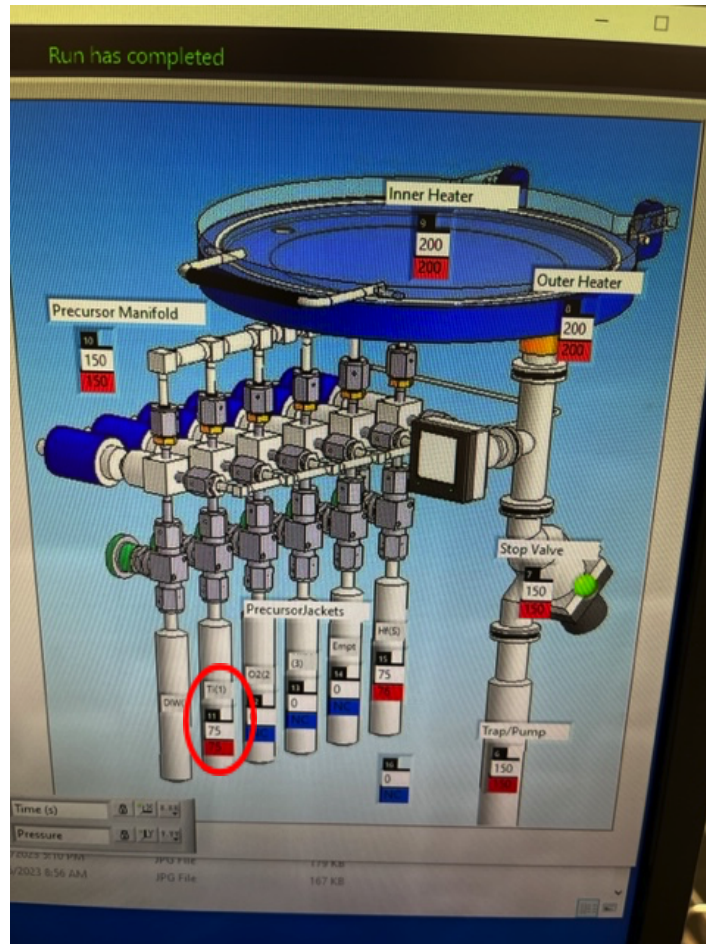

Figure 2: Verify Precursor Temperature
- 9.3.1. Check if the precursor you would like to use is available, and up to temperature if applicable. **Figure 2.**